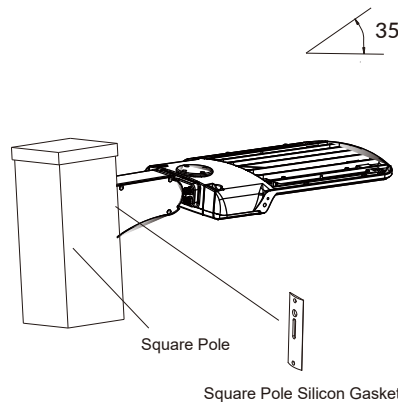

Figure 4
- When installing the fixture on a square pole, use the Square Pole Silicon Gasket (Figure 4).